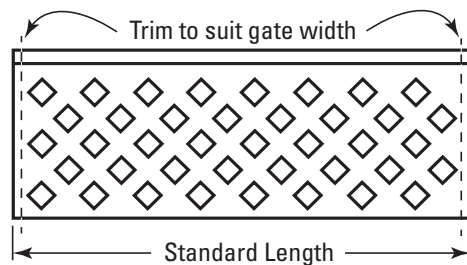

Figure 21.5:
- 4) If required, trim the lattice to fit the width of your gate. Equally trim both ends to retain a balanced effect. (Figure 21.5)